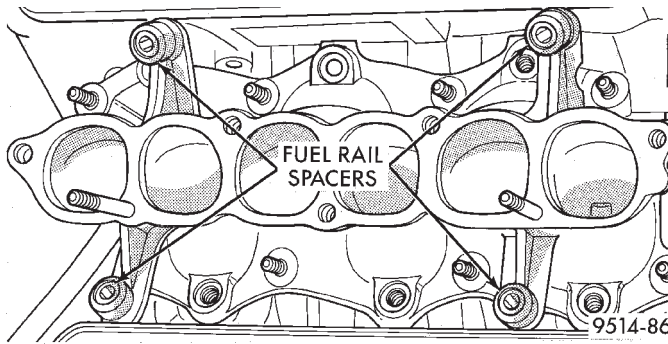

Fig. 37 Fuel Rail Spacers
(18) Lift fuel rail off engine. **There are spacers under each fuel rail bolt (Fig. 37).**